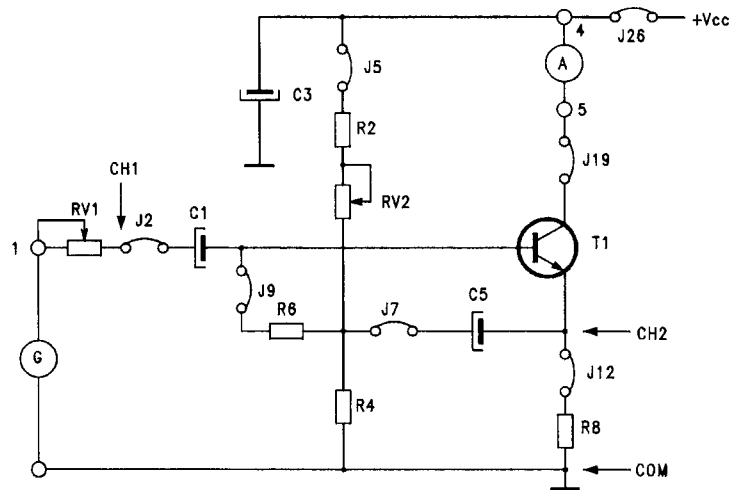

fig.B27.6
- Remove all jumpers, insert J1, J2, J5, J7, J9, J12, J19, J26 and instruments to produce the circuit of fig.B27.6